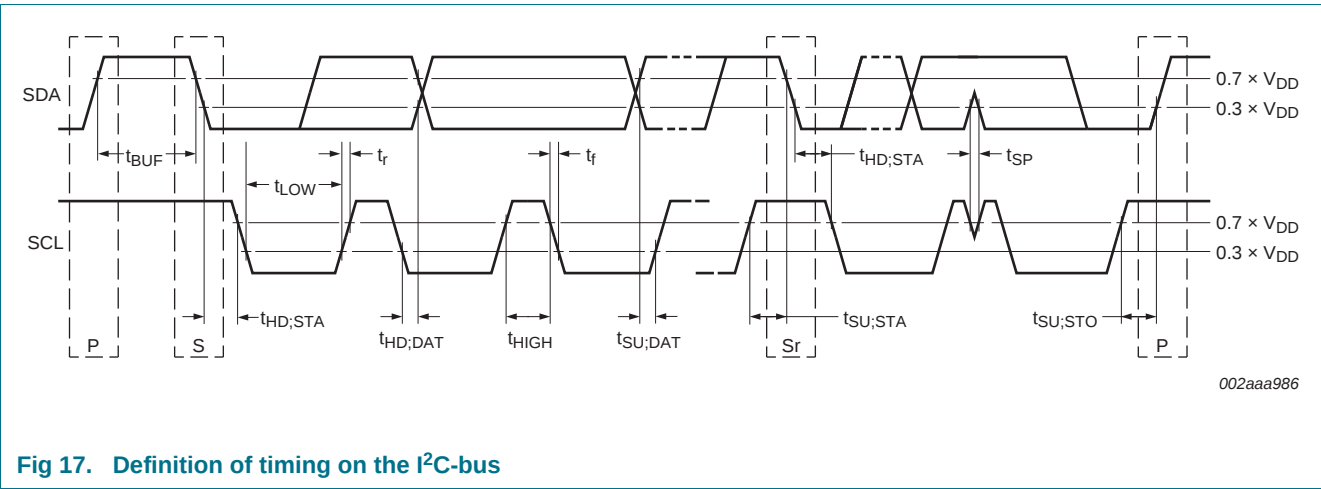

Fig 17. Definition of timing on the I²C-bus
• Section 2 “Features and benefits”, 18th bullet item: deleted phrase “200 V MM per JESD22-A115” • Table 1 “Ordering information”: added column “Topside marking” • Table 2 “Ordering options”: – deleted column “Topside mark” (moved to Table 1) – added columns “Orderable part number”, “Package”, “Packing method” and “Minimum order quantity” • Table 6 “Limiting values”: added $T_{j(max)}$ limits • Added Section 10 “Thermal characteristics” • Table 8 “Static characteristics at $V_{DD} = 2.3\text{ V to }3.6\text{ V}$”, sub-section “Select inputs A0, A1, INT0 to INT3, RESET”: Max value for V_{IH} corrected from “$V_{DD} + 0.5\text{ V}$” to “6 V” (documentation correction, no change to silicon) • Table 9 “Static characteristics at $V_{DD} = 4.5\text{ V to }5.5\text{ V}$”, sub-section “Select inputs A0, A1, INT0 to INT3, RESET”: Max value for V_{IH} corrected from “$V_{DD} + 0.5\text{ V}$” to “6 V” (documentation correction, no change to silicon) • Figure 17 “Definition of timing on the I²C-bus” modified: added $0.7 \times V_{DD}$ and $0.3 \times V_{DD}$ reference lines • Figure 19 “I²C-bus timing diagram” modified: added $0.7 \times V_{DD}$ and $0.3 \times V_{DD}$ reference lines • Added Section 16 “Soldering: PCB footprints”